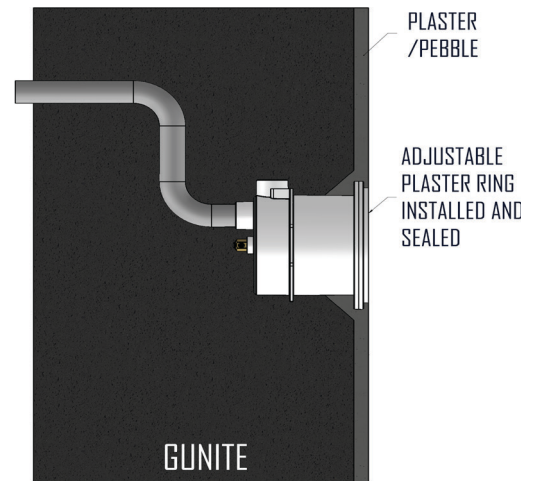

Figure 2
4. Before applying finish remove the gunite shield. Using PVC glue or construction adhesive secure the adjustable plaster ring with integrated water stop inside the Lite Star niche, ensure proper depth and alignment. Pool finish should be flush with the front face of the adjustable plaster ring (See Figure 2). Place plaster cap onto the adjustable plaster ring to avoid debris from entering while applying the finish.